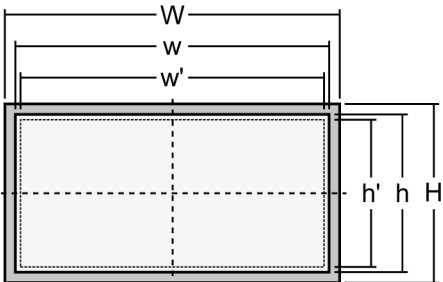

Fig. 12: Cutout schematic
1. ➤ Cut out the panel according to the dimensions in Fig. 12.